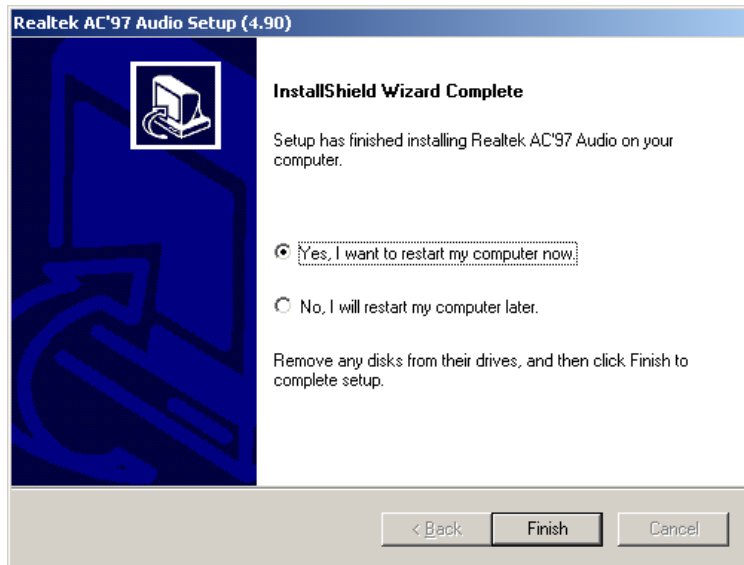

Figure 7-26: Restart the Computer
Step 11: After the driver installation process is complete, a confirmation screen appears (Figure 7-26).